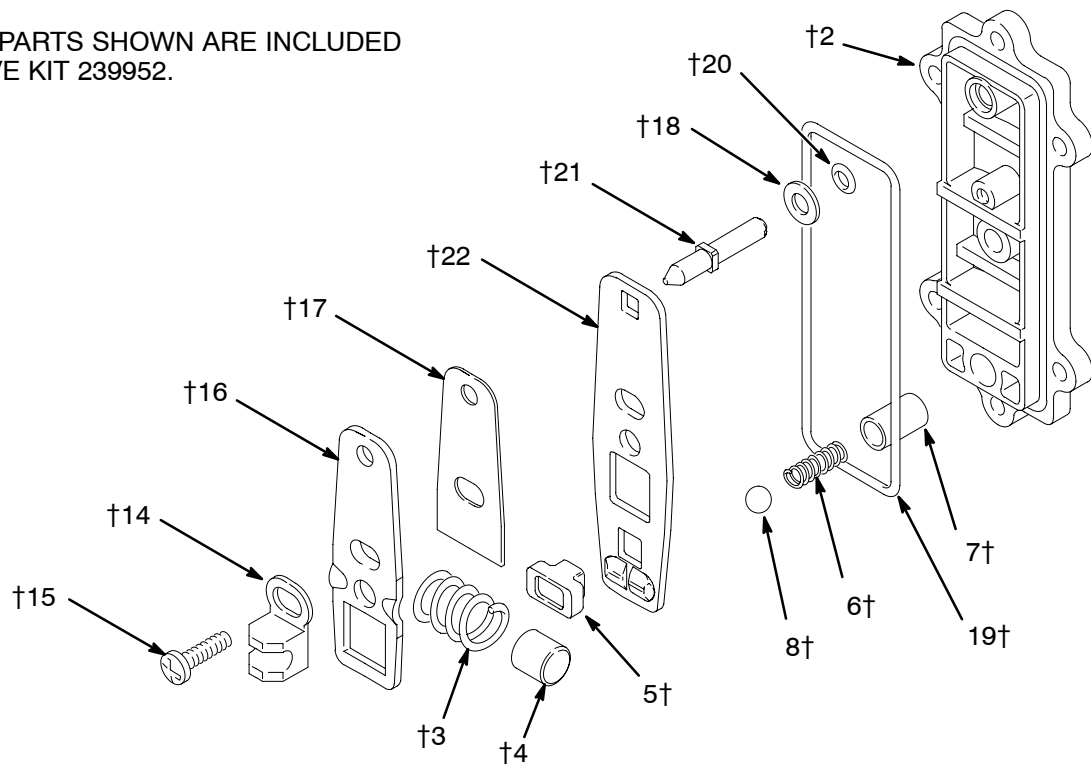

Fig. 6
3. Remove the screw (15) and shift saddle (14). See Fig. 6.
4. Disassemble the link assembly, consisting of the actuator link (16), spacer (17), detent link (22), spring (3), stop (4), and valve cup (5).
5. Remove the detent ball (8) and spring (6). The detent collar (7) is a press-fit and should not need removal; if it does require replacement, you should also replace the cover (2).
6. Remove the reset shaft (21), o-ring (20) and washer (18).